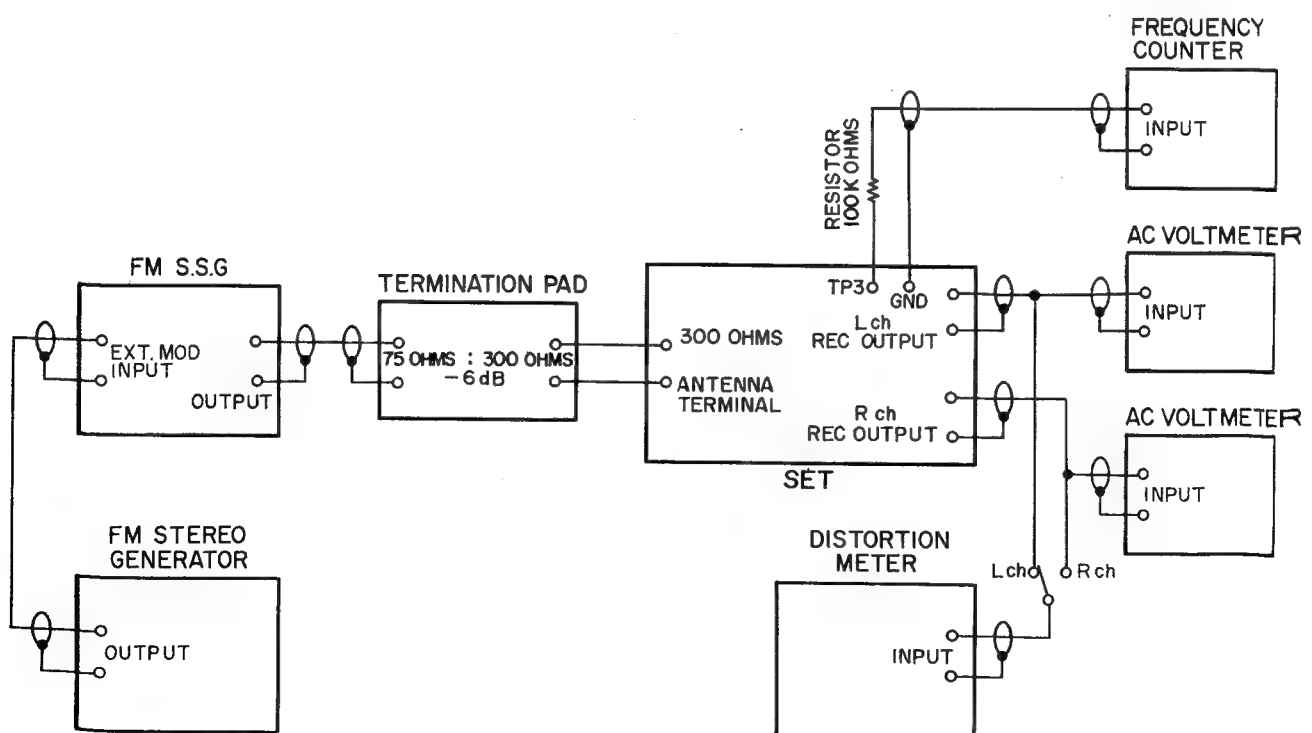

Fig. 11 Instrument Connections
6. When connecting a Frequency Counter, connect from TP via a 100 kohms resistor. (Refer to Fig. 11)